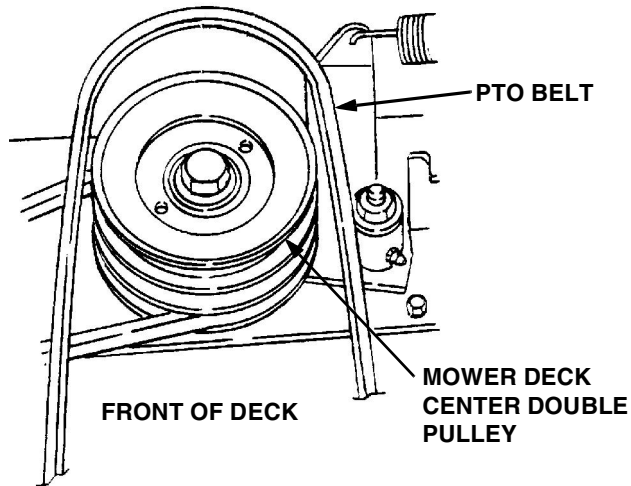

Figure 6-28
14. Working from the left/rear of the mower deck, make sure there is only a 1/4 twist inward in both runs of the belt. Then install the the narrow side of the rearward end of the PTO belt onto the upper pulley of the deck center double-pulley (Refer to Figure 6-28).